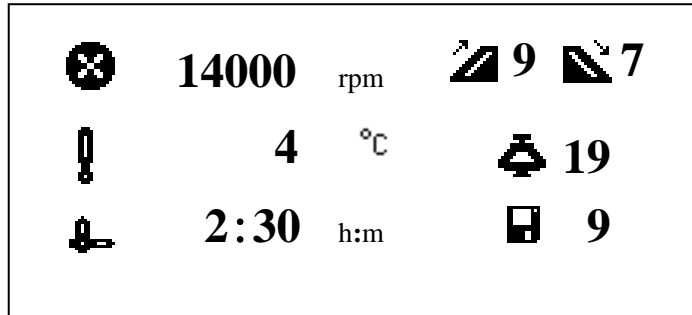

Figure 7-2 Preparation mode interface
■ This centrifuge will move to a preparing interface after self-checking, and display the running parameters of the last time. For example, the Figure 7-2 shows that the speed was set to be 14000rpm, the temperature was 4°C, the running time was 2 hours and 30 minutes, the acceleration rate was 9, the deceleration rate was 7, the rotor ID was 19, and the program group number was 9.
Figure 7-2 is only an example. User's setting parameters and running parameters may be different from it.